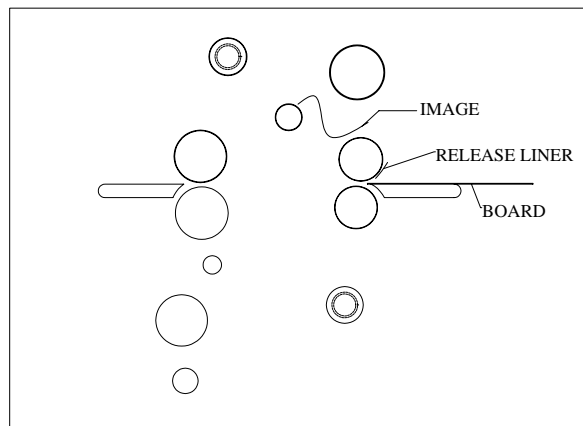

Figure 34
Note: This application can also be performed from the rear operating position. Reference Fig. 34 for illustration.
1. Use a leader board to set the pull roller pressure prior to mounting the image. (Fig. 34)